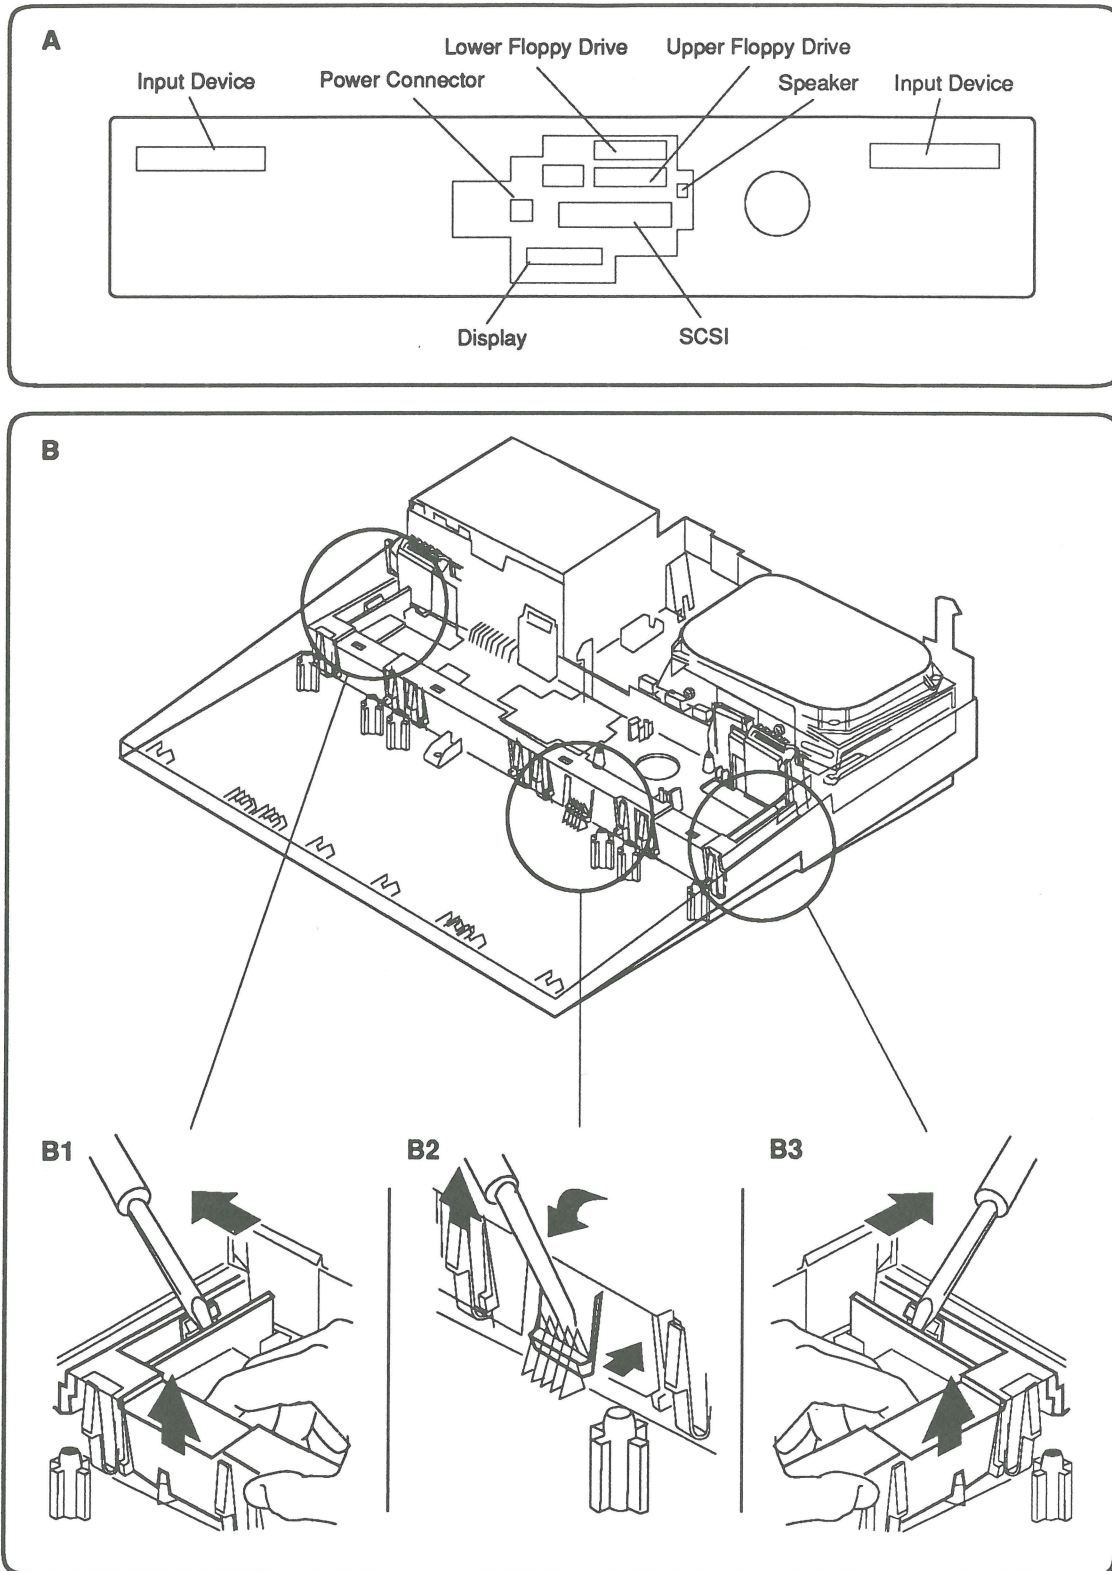

FIGURE 21
3. **Figure 21-A.** Using the illustration as a guide, disconnect the following cables from the logic board:
4. **Figure 21-B1.** Locate the left subframe latch. Using the flat-blade screwdriver, pull the clip away from the subframe. When the clip is released, lift the left side of the subframe.
5. **Figure 21-B2.** While holding the left side of the subframe up—far enough to keep it from being held by the plastic clip—press on the clip at the right front of the subframe. Press the clip in far enough to release it. You can now lift the subframe a little farther.
6. **Figure 21-B3.** Use the flat-blade screwdriver to release the plastic clip at the right side of the subframe.